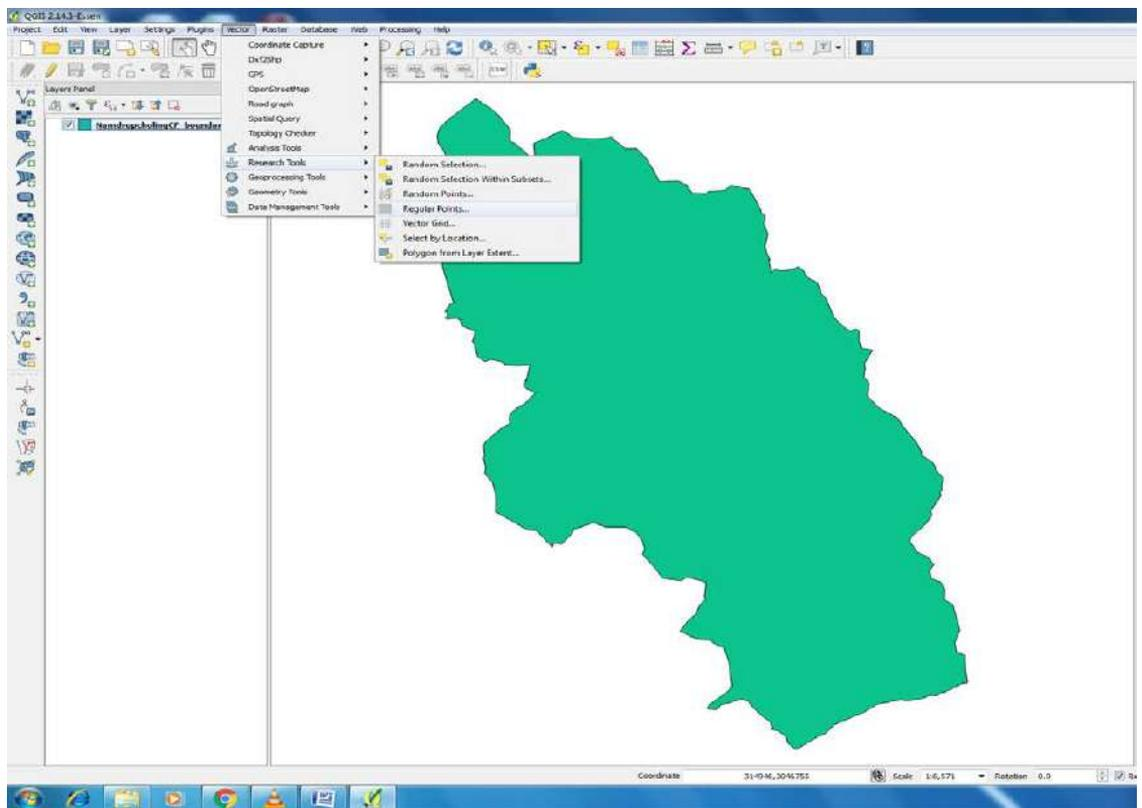

Figure 8a
i. Load the shape file of the CF in QGIS. Please note that the file must be ESRI shape file and NOT other types of file. Go to tab 'vector' as shown in the Figure 8a and select Research tools on the drop down. Under the Research tools, select Regular points in the drop down.